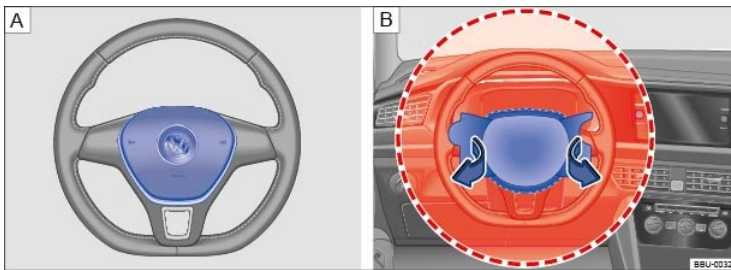
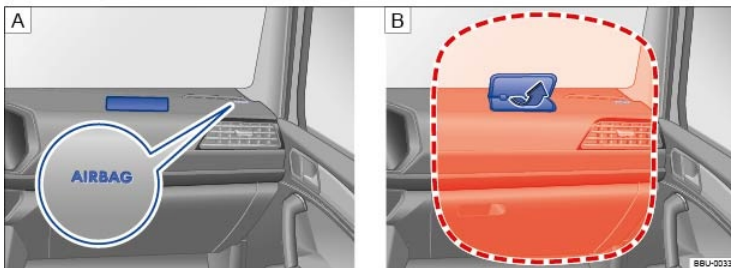

Fig. 35 Location and deployment zone of the driver front airbag.
Fig. 36 Location and deployment zone of the front passenger front airbag.
The vehicle is equipped with an Advanced Airbag System in compliance with the United States Federal Motor Vehicle Safety Standard (FMVSS) 208 or the Canada Motor Vehicle Safety Standard (CMVSS) 208 applicable at the time your vehicle was manufactured. The airbag for the driver is in the steering wheel hub ⇒ Fig. 35  and the airbag for the front passenger is in the instrument panel ⇒ Fig. 36 . The general location of the airbags is marked AIRBAG.
The areas marked in red (dotted lines) ⇒ Fig. 35  and ⇒ Fig. 36  indicate the airbag deployment zone. Never place or attach accessories or other objects (such as cup holders, telephone brackets, note pads, navigation systems, large, heavy or bulky objects) on the doors, on the windshield, over or near the area marked in red (dotted lines).
- Never place accessories or other objects (such as cup holders, telephone brackets, notepads, navigation systems, or things that are large, heavy, or bulky) on the doors or attach them to the doors; never place them over or near the area marked AIRBAG on the steering wheel, instrument panel, or seat backrests, or between those areas and someone in the vehicle ⇒ *Fig. 35* and ⇒ *Fig. 36*. Such objects could cause serious injury in a collision, especially if an airbag inflates.